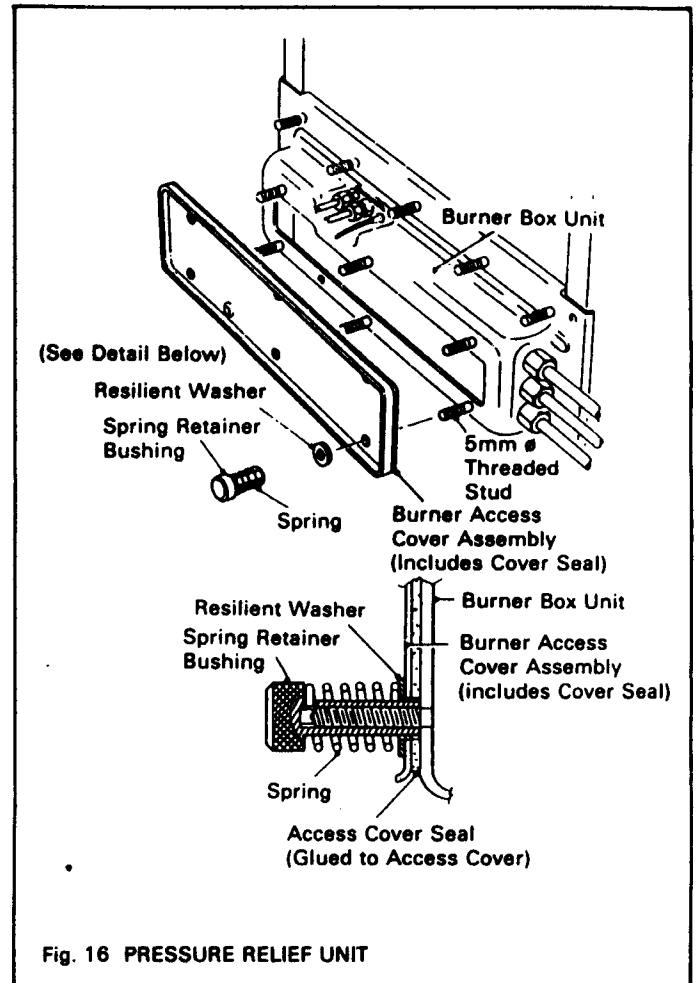

Fig. 16 PRESSURE RELIEF UNIT
This appliance is fitted with a pressure relief unit as shown in Fig. 16. The purpose of this unit is to allow a safe relief of pressure in the unlikely event of a build up of gas in the burner compartment before ignition takes place.
- (a) Remove the spring retainer bushings and washers from the burner access panel. (See fig. 16). Take off the access panel. Store the parts in a safe place.